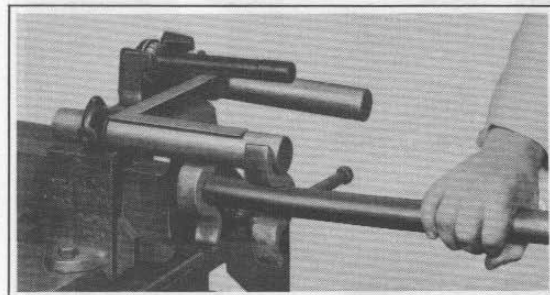

Figure 2-36. Bending Bracket Legs Parallel
5. Use a square to check if bracket assembly is bent, distorted or out of parallel on a horizontal plane as shown in figure 2-36. Place bracket and bar assembly in a heavy vise and straighten using the Bending Bar.